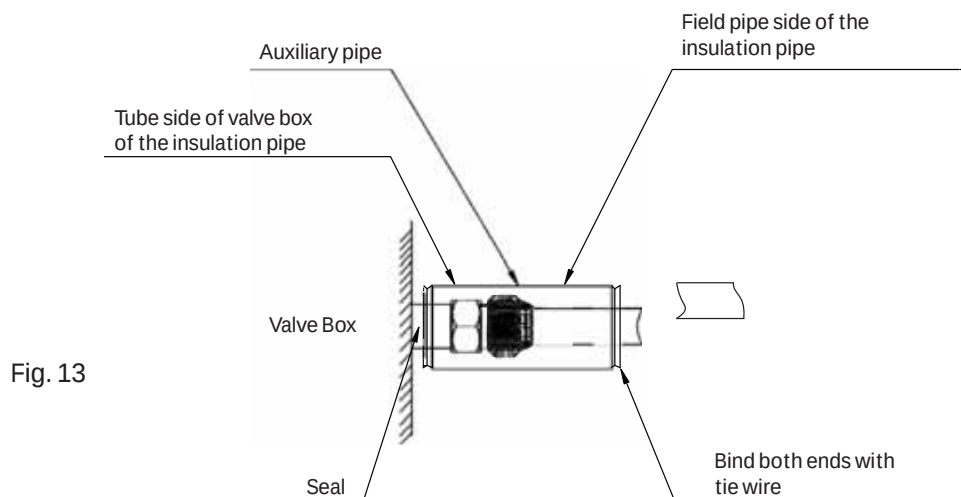

Fig. 13
- (1) Please connect it tightly to ensure no air leakage at both ends.
- (2) The retaining clamp should not be over tightened, so the thickness of the insulation materials can be maintained.
- (3) Joints in insulating materials (purchased locally) for the flare nut connections shall be wrapped upwards.
- (4) Ensure that joints in the insulation materials are installed upwards. (See Fig.13.)